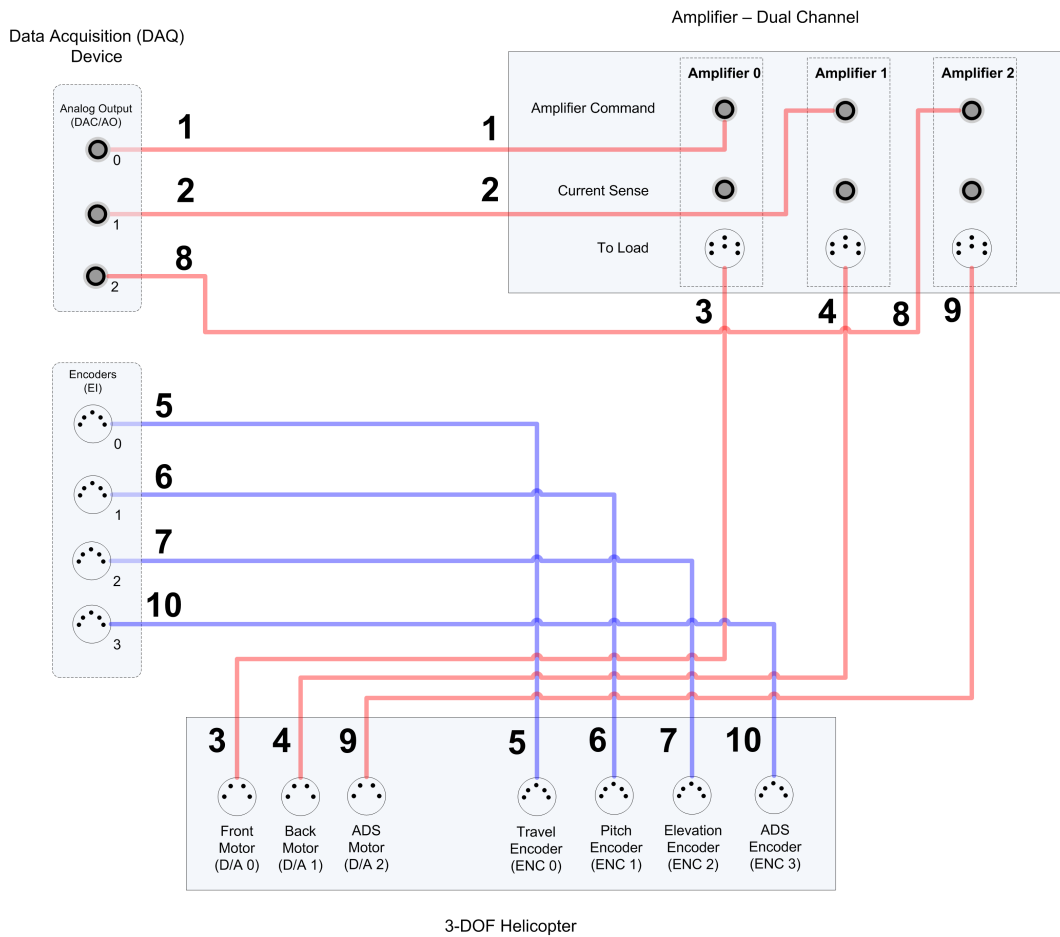

Figure 3.10: Connection diagram for 3 DOF Helicopter with the ADS option.
The additional wiring needed to operate the Active Disturbance System (ADS) is detailed in this section. The full connections between the DAQ terminal boards, amplifiers, and 3 DOF Helicopter with the ADS option are illustrated in Figure 3.10. These connections are described in detail in the procedure below and summarized in Table 3.2.
2. Connect the 2xRCA to 2xRCA cable from the *Analog Output Channel #2* on the DAC board to the *Amplifier Command* connector on the amplifier. See cable #8 shown in Figure 3.10. This carries the attenuated ADS motor voltage control signal, V_{ads}/K_a , where K_a is the amplifier gain.
3. Connect the 4-pin-stereo-DIN to 6-pin-stereo-DIN from *To Load* on the amplifier to the **ADS** motor connector. See connection #9 shown in Figure 3.10. The cable transmits the amplified voltage that is applied to the ADS motor, V_{ads} .
4. Connect the 5-pin-stereo-DIN to 5-pin-stereo-DIN cable from the *ADS Encoder* connector on the 3 DOF Helicopter base to *Encoder Input #3* on the terminal board, as depicted by connection #10 in Figure 3.10. This carries the angular measurement of the ADS lead screw. This measurement is then translated to give the linear position of the disturbance mass and is denoted by the variable x .